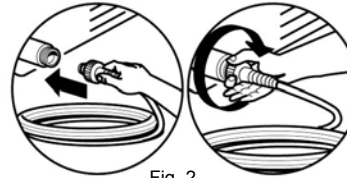

Fig. 2
1. While facing the front side of the unit attach the high pressure hose to the high pressure output connector on the right side of the unit. Twist on tight to avoid leakage. (Fig. 2)